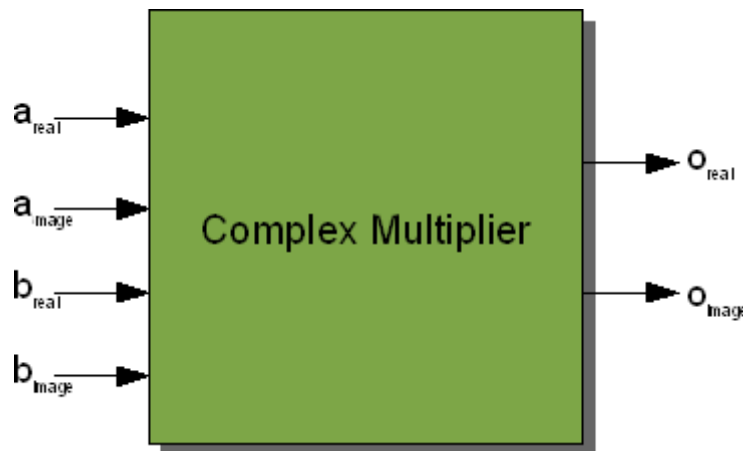

Figure 1: Complex Multiplier Block Diagram
1. Figure 1 shows block diagram of complex multiplier. It shows all inputs and outputs of the module.